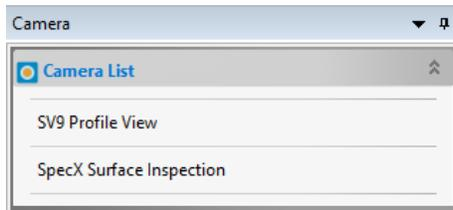

Figure 1
1. Select the microscope to be used (see Figure 1). Please note only one camera can be run at a time. The camera view must be closed out in order to switch views. To close current view, press CTRL+W or right click the live view tab and close.